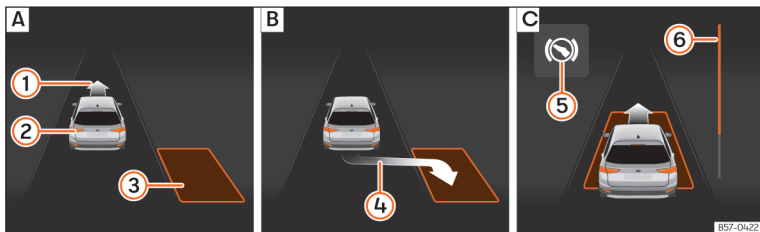
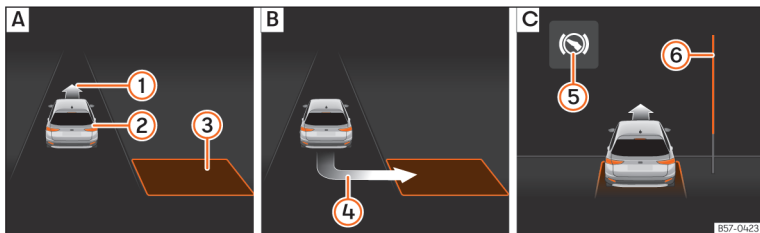

Fig. 166 On the instrument panel display: parallel parking. **A** Finding a parking space. **B** Parking position. **C** Manoeuvring.
Fig. 167 On the instrument panel display: angle parking. **A** Finding a parking space. **B** Parking position. **C** Manoeuvring.
- Look at the display on the instrument panel to see if the space has been detected as “appropriate” and if the correct position for parking has been reached »» Fig. 166 **B** or »» Fig. 167 **B**. The space is considered
- Reverse until the continuous ParkPilot signal sounds; **OR:** reverse until the indication to move forward appears on the instrument panel display »» Fig. 166 [C] or »» Fig. 167 [C]; **OR:** reverse until the **Park Assist finished** message appears on the instrument panel display. The progress bar [6] indicates the distance to cover »» page 246.
- Move forward until the continuous ParkPilot signal sounds; **OR:** move forward until the reverse indication appears on the instrument panel display. The Park Assist system steers the vehicle forward and back until it centres it in the space »» Fig. 166 [C] or »» Fig. 167 [C].
»» Fig. 166 [6] and »» Fig. 167 [6] on the screen of the instrument panel displays the relative distance to be covered. The greater the distance, the fuller the progress bar. When driving forward, the content of the progress bar decreases upwards, and when reversing, it decreases downwards.